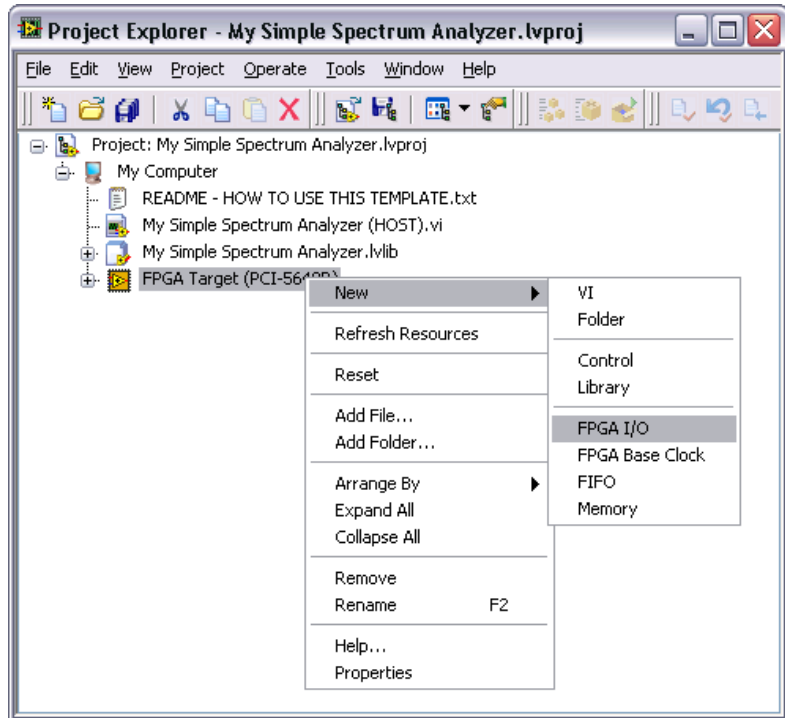

Figure 12. Adding New FPGA I/O Resources
1. From the **Project Explorer** window, right-click **FPGA Target (PCI-5640R)** and select **New»FPGA I/O** from the shortcut menu, as shown in Figure 12. The **New FPGA I/O** dialog box appears, displaying the I/O resources available on the NI PCI-5640R.